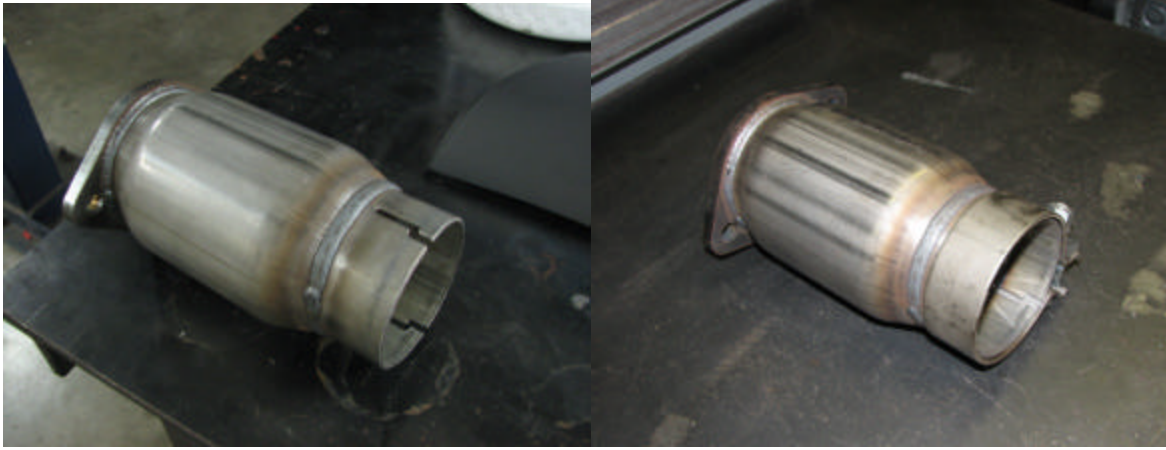

Figure 9: CAT without (left) and with (right) Torca Clamp
29. Next, slide a 3" Torca clamp onto each header collector end or onto the inlets of the CATs (Figure 9).